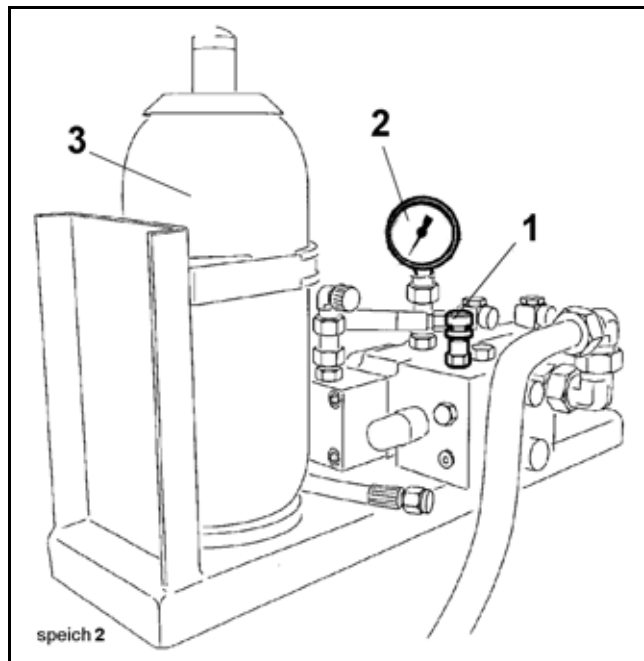
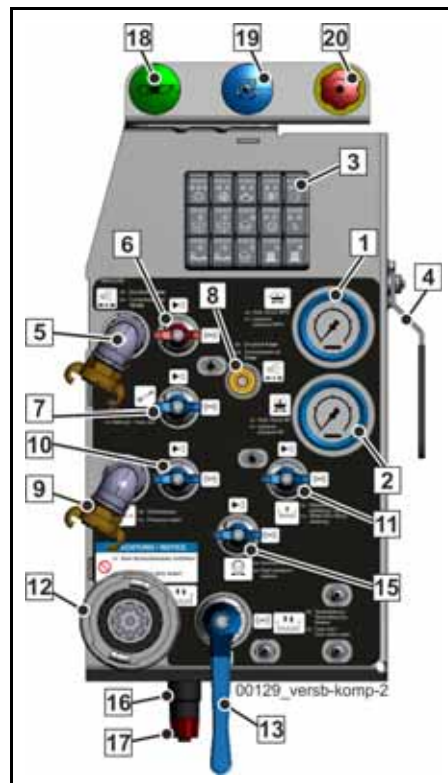

Fig. 293
Fig. 294 (2) Pressure gauge of the concrete pump / supply control
- Monitor the pressure gauge, e.g. (2) (**Fig. 293**) or (2) (**Fig. 294**),
Depending on the type of machine, the pressure gauge (2) is located directly on the accumulator safety block (**Fig. 293**) or at another position that is easy to see for the operator, e.g. (2) (**Fig. 294**).
- Open the manual accumulator breather valve (1) (**Fig. 293**).
- Read pressure gauge (2); it should be pointing to 0 bar.